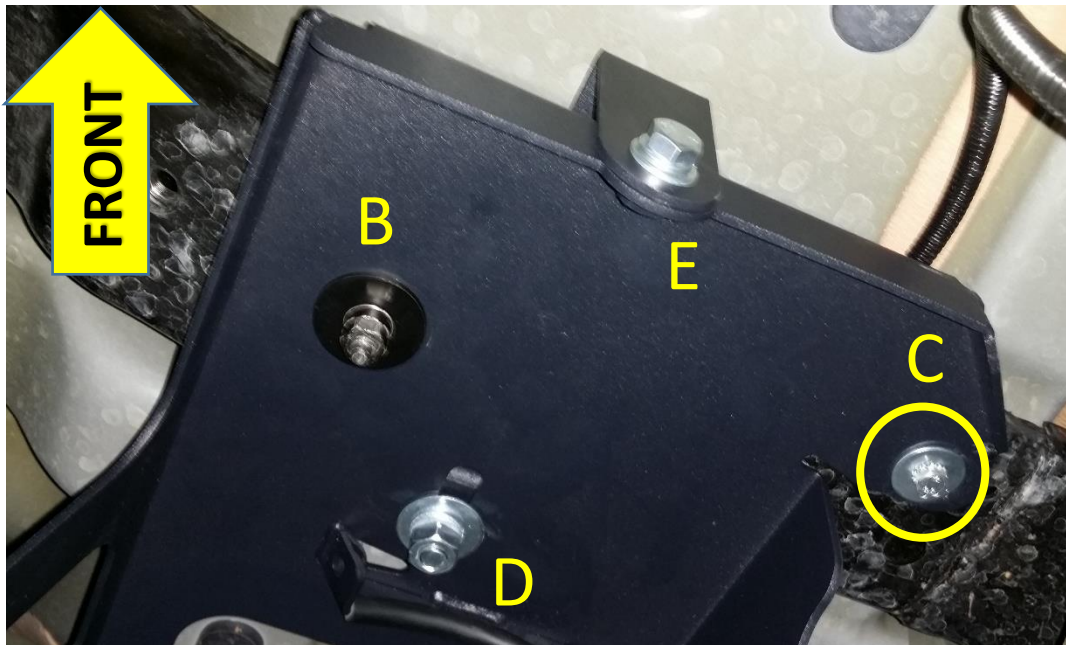

Figure 19 - JK-201 Mounting Points
- 10.3.3. With JK-201 over Ground Strap Stud at point “B”, as shown in Figure 15 above and Figure 18 below, reinstall OE nut removed using hardware #12 over bracket, as shown in Figure 19. Hand tighten.
- 10.3.8. Attach JL-203 strap over crossmember to hole “D”, as shown in Figure 15 and Figure 19 above using hardware #6, #14, #20, and #10; hand tighten.
- 10.3.9. Attach final JL-203 Mounting Strap bolt to hole “E”, as shown in Figure 15 and Figure 19 above using hardware #2, #13, and #19.